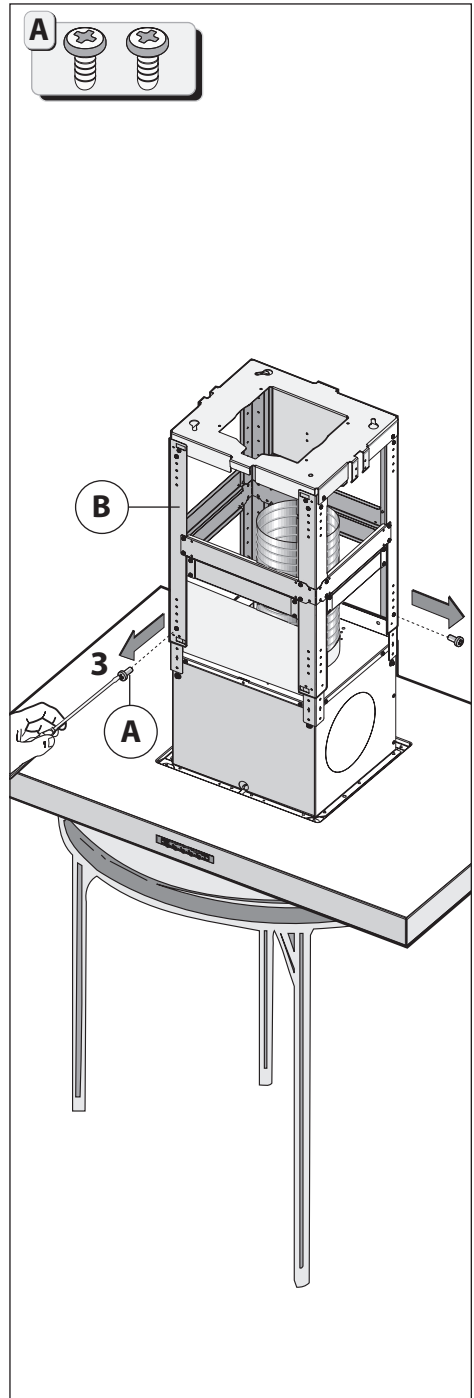

Fig.4
- Remove the 2 screws **A** fastening the upper structure **B** to the lower structure **C** as indicated in fig.4.